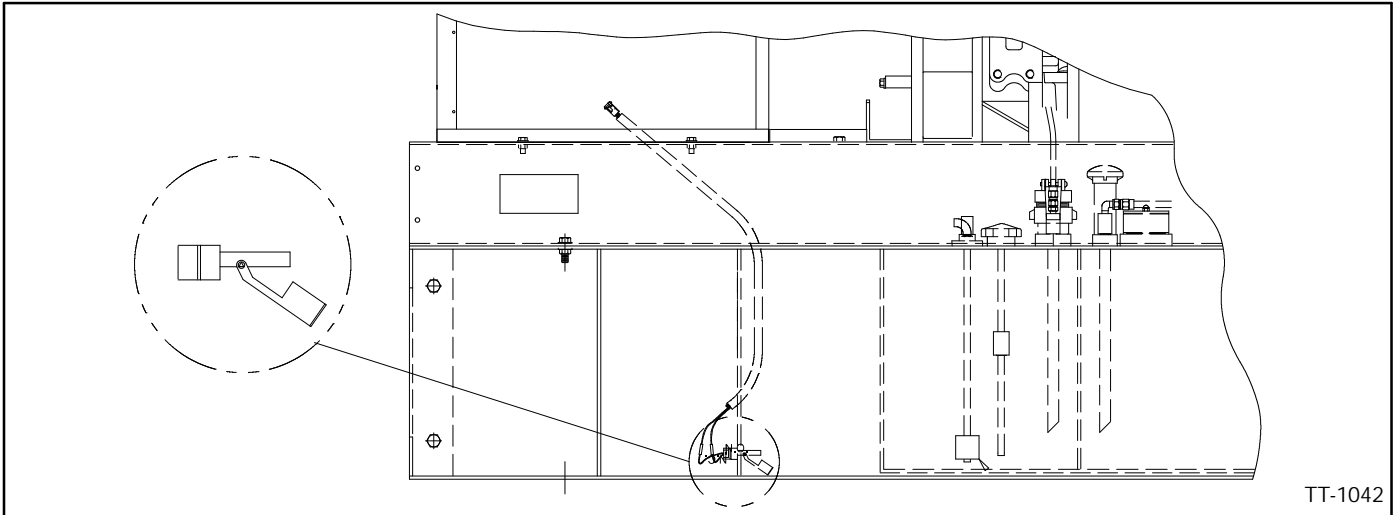

Figure 1. Leak Alarm Sensor Installation Location and Positioning
5. Apply pipe sealant to threads of new leak alarm sensor (A-226201) and install in tank. Position sensor as shown in Figure 1.